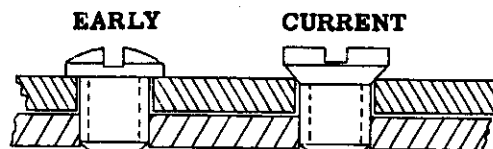

Figure 9. BRACKET SCREWS
c. Rangefinder actuating bracket must be mounted tight on the rear yoke section. Early models will require replacement of clamp screws with a special flat head screw (P/N 34932), figure 9.